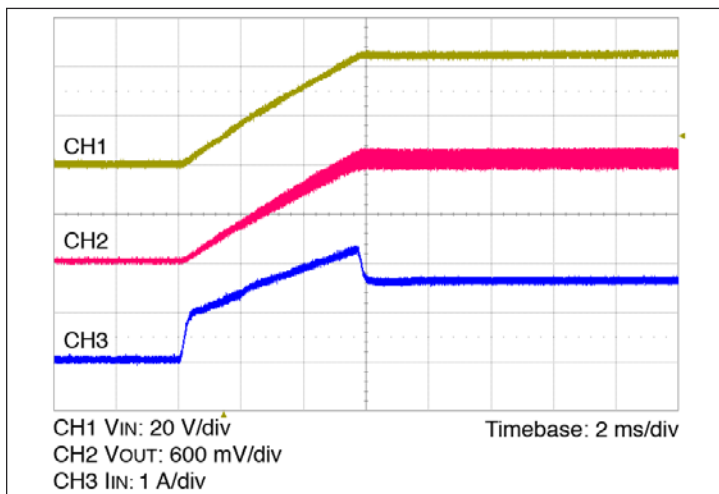

Figure 13 — Start up from application of V_{IN} ; V_C pre-applied $C_{OUT} = 0 \mu\text{F}$
- Normal Operation (VC applied prior to V_{IN}): In this case the controller is active prior to ramping the input. When the input voltage is applied, the VTM output voltage will track the input (See Figure 13). The inrush current is determined by the input voltage rate of rise and output capacitance. If the VC voltage is removed prior to the input reaching 26 V, the VTM module may shut down.